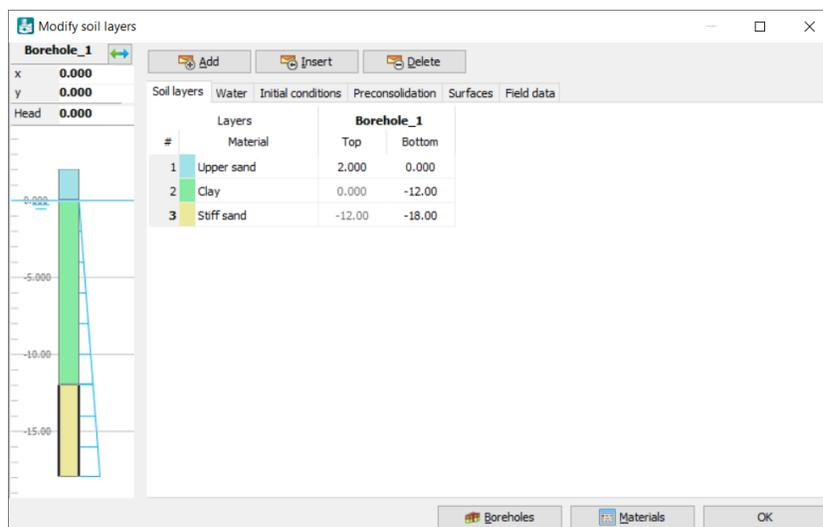

Figure 60: Soil layer distribution
2. Assign the material data sets to the corresponding soil layers (Figure 60 (on page 85)) and close the **Modify soil layers** window. The concrete data set will be assigned later.